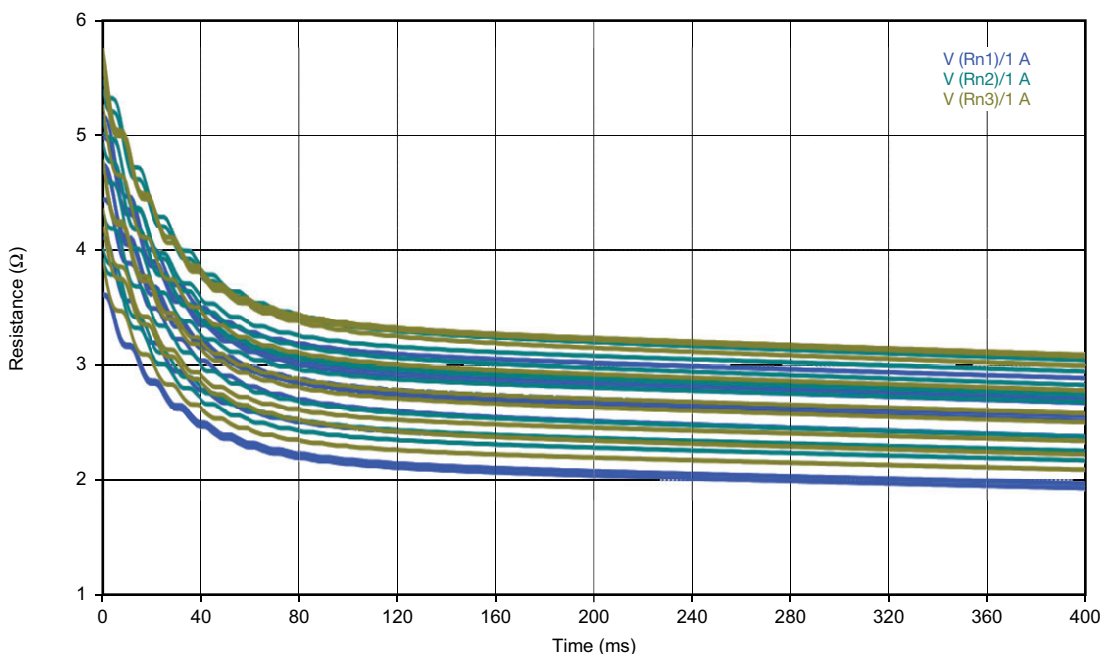
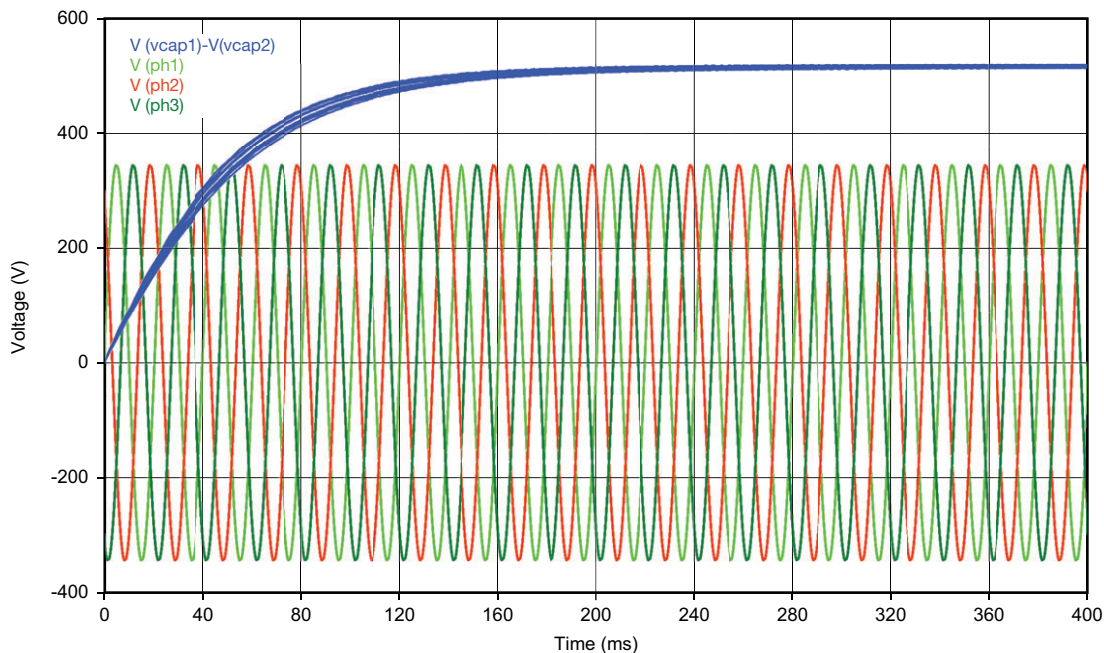
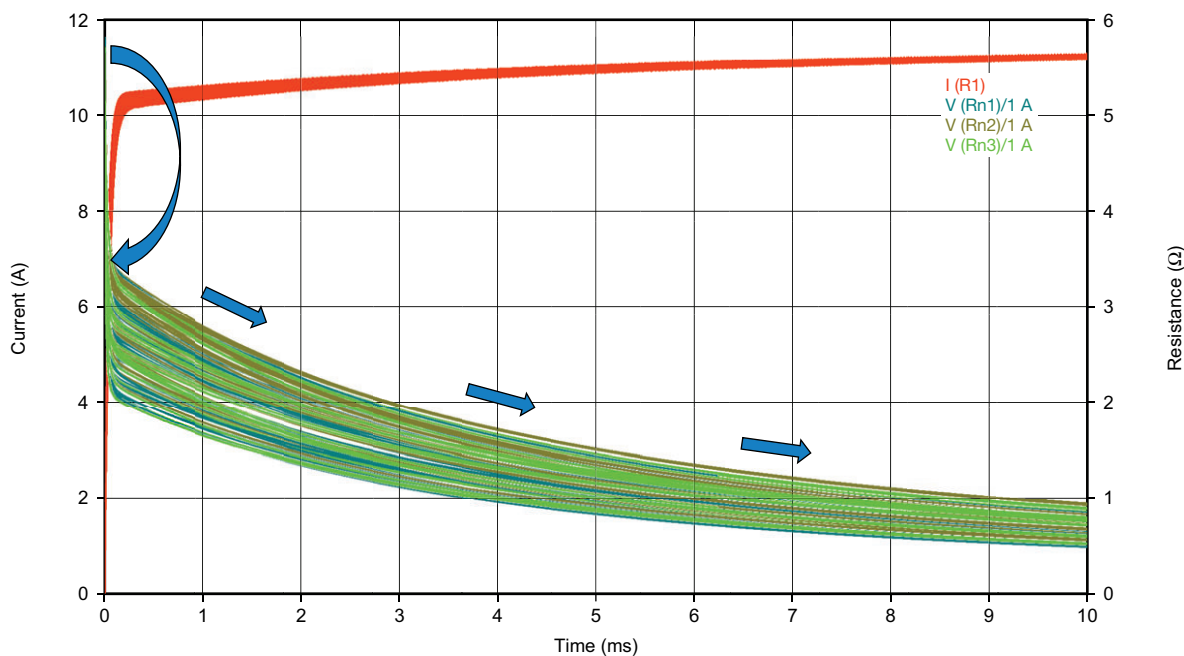
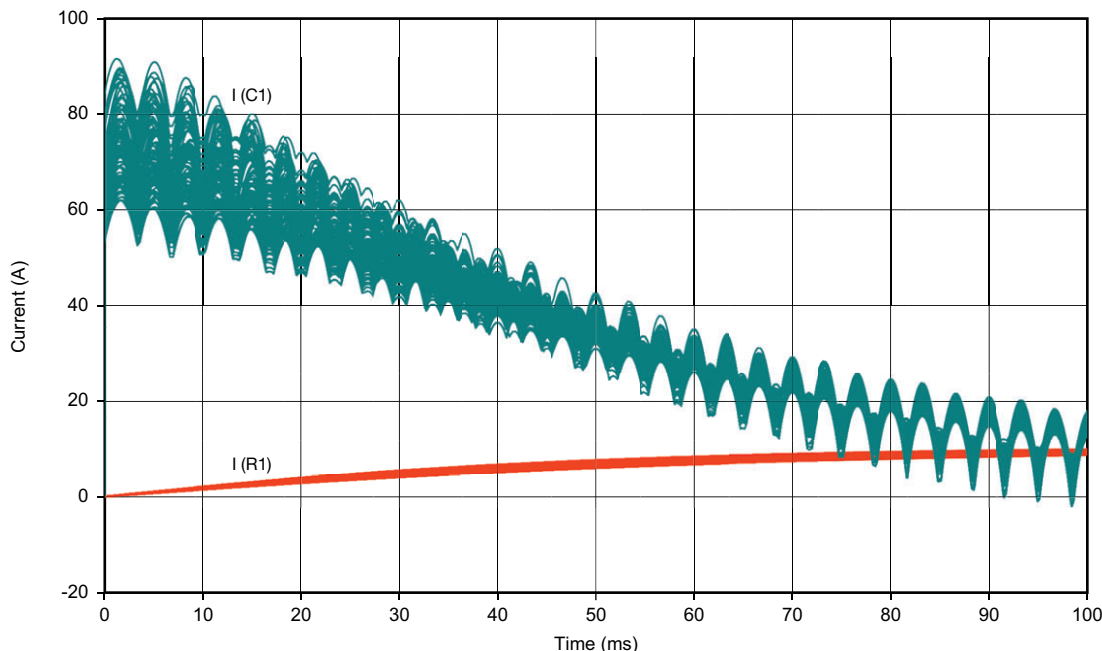

Fig. 6
Fig. 7
Fig. 8
Fig. 9
Looking at the circuit in Fig. 6, we can see that we jumped directly to a triphasic power supply, with whole voltages (345 V peak) de-phased by 120° cumulate to be rectified and fed a load R_1 , with a smooth capacitor C_1 rectifying the voltage.
- The peak current in the capacitor is 75 A to 100 A (Fig. 8) and the current in the resistor R_1 is from 0 A to 20 A (Fig. 8 and Fig. 9)
- The initial and steady-state residual NTC resistance values (see Fig. 6 and Fig. 8)
Fig. 6 shows the capacitor charging joule effect on the three NTC components, with the initial resistance drop immediately after 100 ms. Then the resistance drop will be more progressive until a steady state is reached after more than 10 s (Fig. 7).